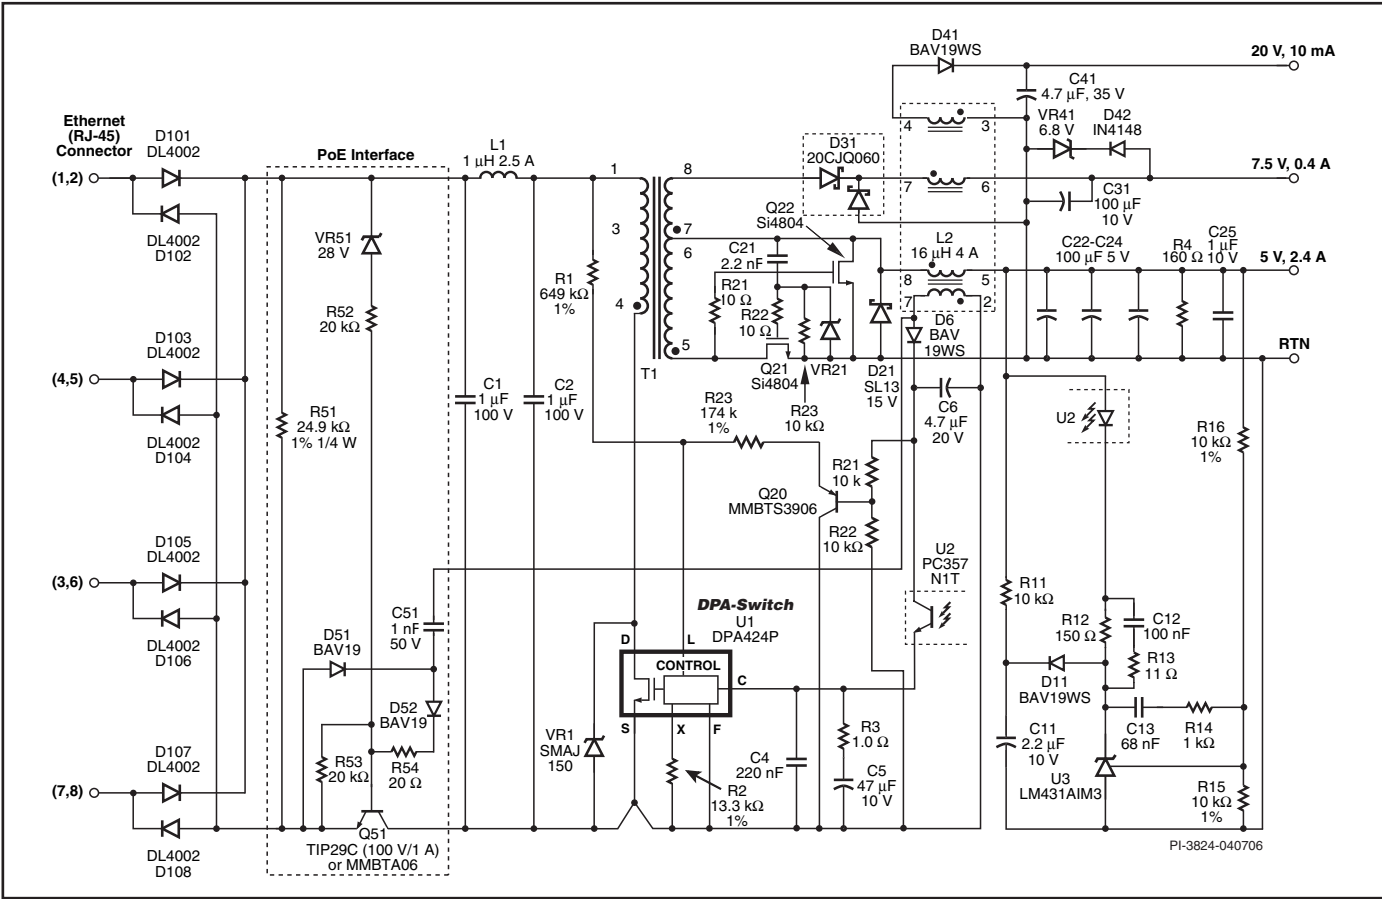

Figure 27. PoE Interface Circuit Using a Bipolar Transistor Pass-Switch and DPA424P.
controlled pass-switch. By adding this circuitry to the front end of a DPA converter, a low cost and low component count PoE powered device (PD) power supply can be implemented. Figure 27 shows a typical PD solution.
When input voltage is applied to the PD, it must present the correct discovery signature impedance in the voltage range of 2.5 VDC to 10 VDC. This impedance is provided by R51 in Figure 27.
In the third phase, the bipolar pass-switch (Q51 in Figure 27) connects the input voltage to the power supply at voltages above approximately 30 VDC ($28\text{ V} + V_{R52}$). Zener diode VR51 conducts, driving the current through resistor R52 to the base of Q51. Resistor R53 prevents turn-on under other conditions. Once the Power supply has started, components D51, D52, C51 and R54 enhance the base-current drive by coupling